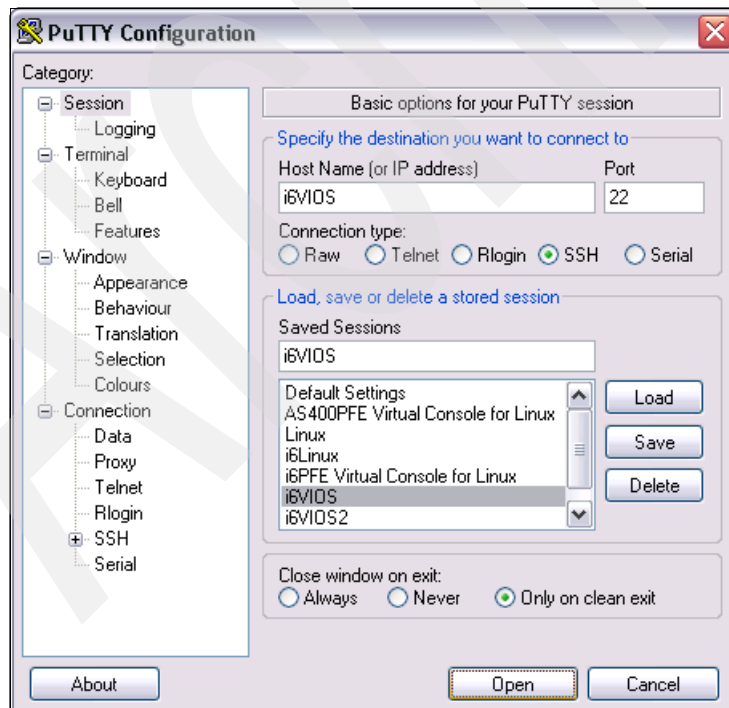

Figure 6-61 Using PuTTY to connect to VIOS via SSH
1. We connect to our VIOS partition via a secure shell (SSH) connection over TCP/IP port 22 from our PuTTY client, as shown in Figure 6-61.